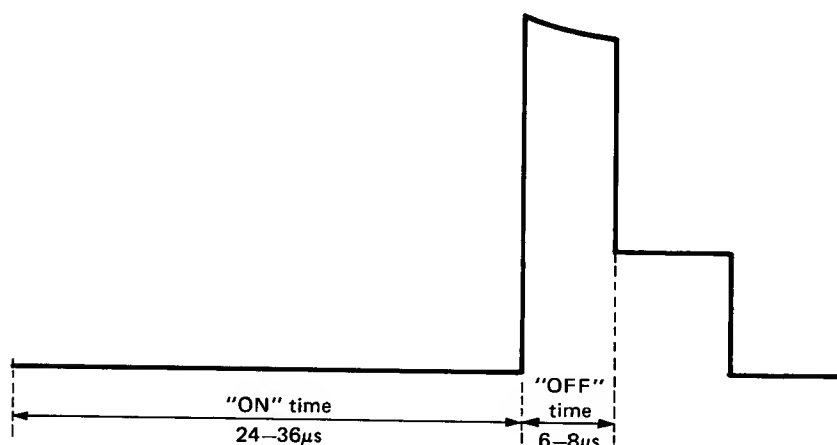

Fig. 3.1
- e. Check that the waveform on TP4 is as shown in Figure 3.1. If the "ON" time is less than $24\text{ }\mu\text{s}$, short SP150. To synchronise the waveform, it is convenient to trigger from the junction of R163 and R164.